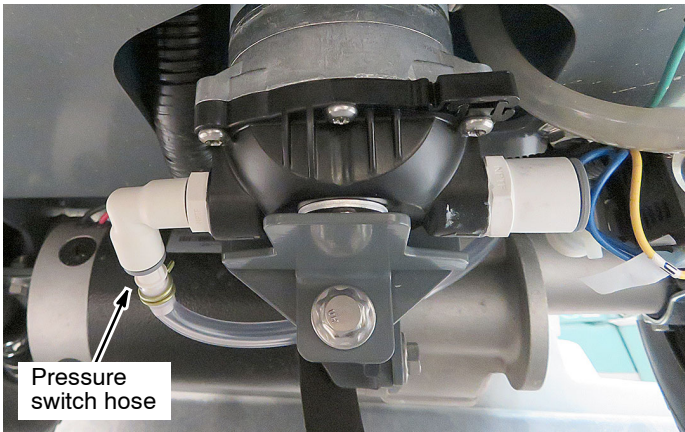

Fig. 23
22. Connect the routed pressure switch hose to the pump fitting as shown (Figure 23).